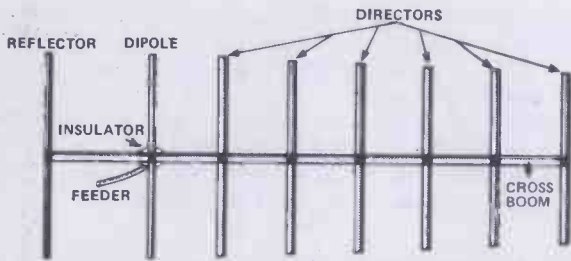

Fig. 4. Multi-element (Yagi) TV aerial, showing dipole, reflector and directors.
It is possible to increase the response of signal capture capability of an aerial for signals arriving from a given direction by making the aerial directional. The aerial then favours signals arriving from that direction, while attenuating or discriminating against signals arriving from the other directions. Directionality is attained by the addition of so-called parasitic elements placed behind (reflector) or in front (director) the main dipole, as shown in Fig 4. The optical analogue of a reflector is the reflector placed behind the bulb of a car headlamp, and of a director the lens placed in front of the bulb of a torch, for example. Both beam the light forward. With a directional aerial, therefore, it is possible to turn it so that the "beam" lies in the direction of the wanted signal. Some long-distance (DX) enthusiasts use remotely-controlled rotators for turning their aerials.